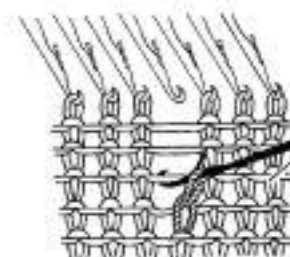

Fig. 38-5
4. Repeat until the last strand has been picked up. (Fig. 38-5)